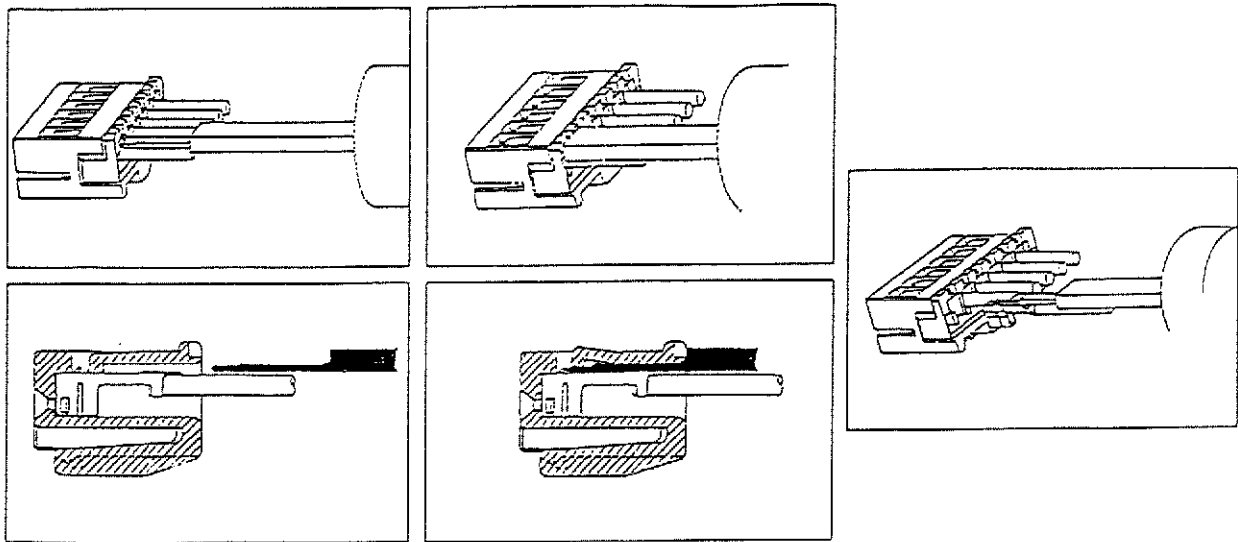

Fig. 12
- ① Insert the tip of tool in the housing from an electric-wire side like fig.12, 13.
- ② Push the tool in until the stopper shoulder touches to a housing.
- ③ Hold a tool and an electric-wire together and extract them simultaneously.